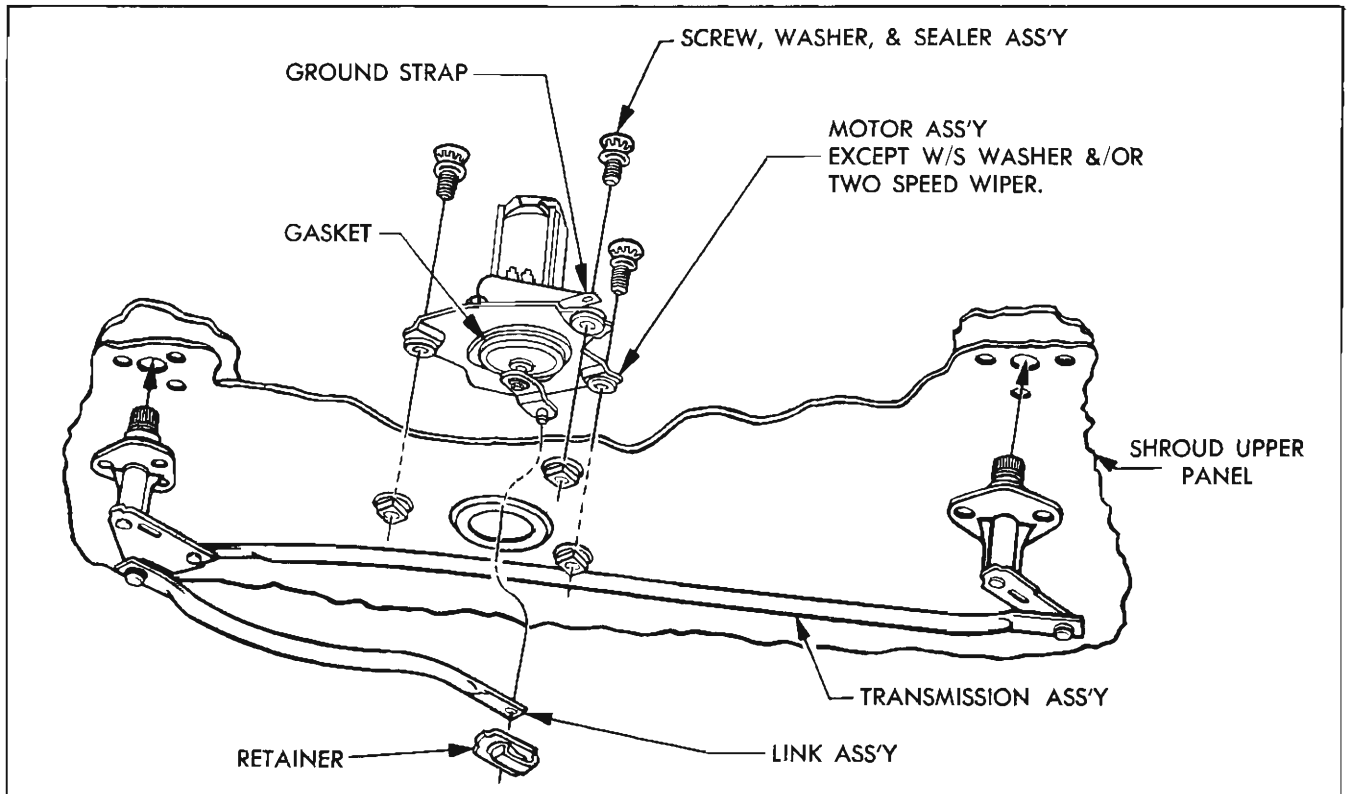

Fig. 11-63 Windshield Wiper Transmission
### WIPER TRANSMISSIONS AND LINKAGE—REPLACE (FIG. 11-63)
1. Make sure gasket is on motor (Fig. 11-63).